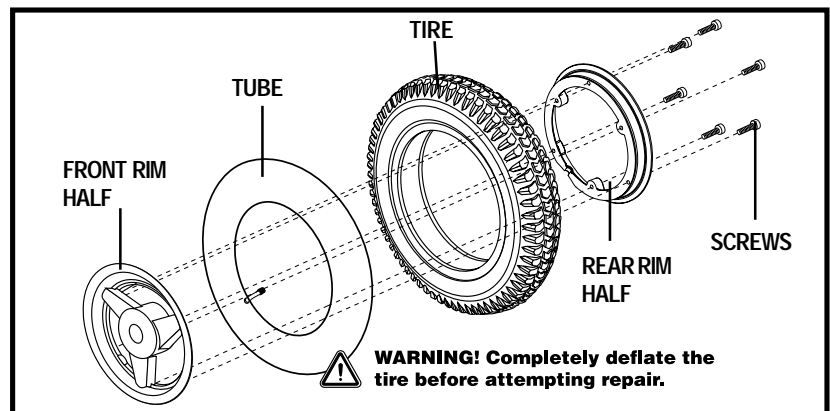

Figure 31. Drive Wheel Disassembled
6. Remove the screws from the rim assembly and separate the front and rear rim. See figure 31.